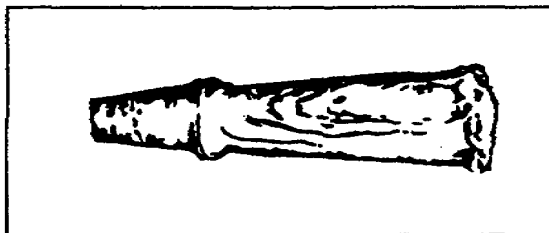

Figure 2-20. Mushroomed chisel head
(1) Replacing the Wood Chisel Head. A wood chisel with a mushroomed head (Figure 2-20) should be replaced immediately, because a mallet can glance off its mushroomed surface easily and spoil the work surface or cause injury.